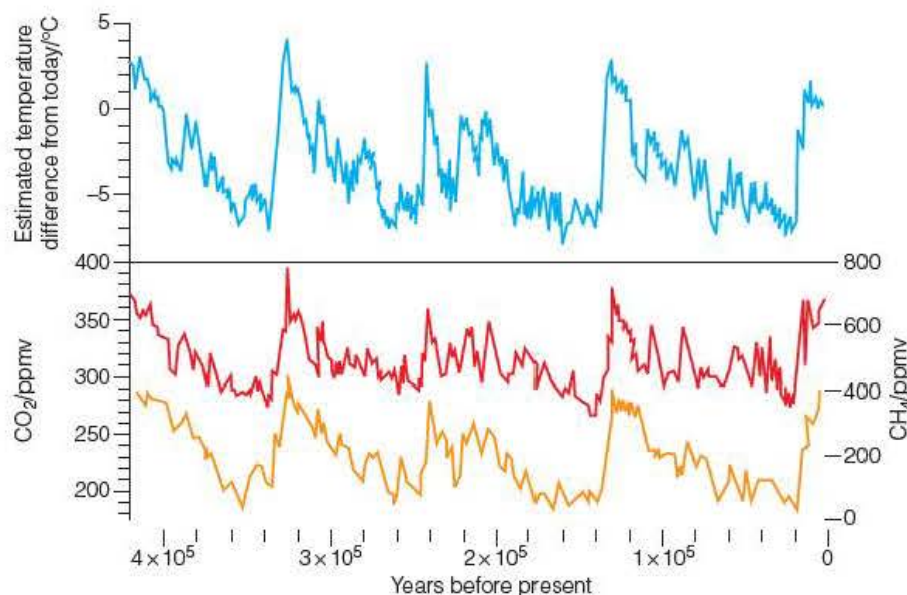

Figure 19.4 ◀
- 4 What can you conclude about CO_2 changes in the atmosphere from the information in Figure 19.4?